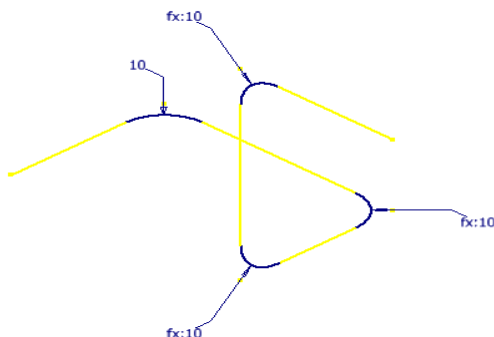

Figure 18-46 3D Sketch after turning off the visibility of the 2D sketches
- d. Add bends at all the corners and then exit the 3D sketching environment, refer to Figure 18-46.
6. Now, turn off the visibility of the two 2D sketches using the **Browser Bar**. The 3D sketch after turning off the visibility of the 2D sketches is shown in Figure 18-46.